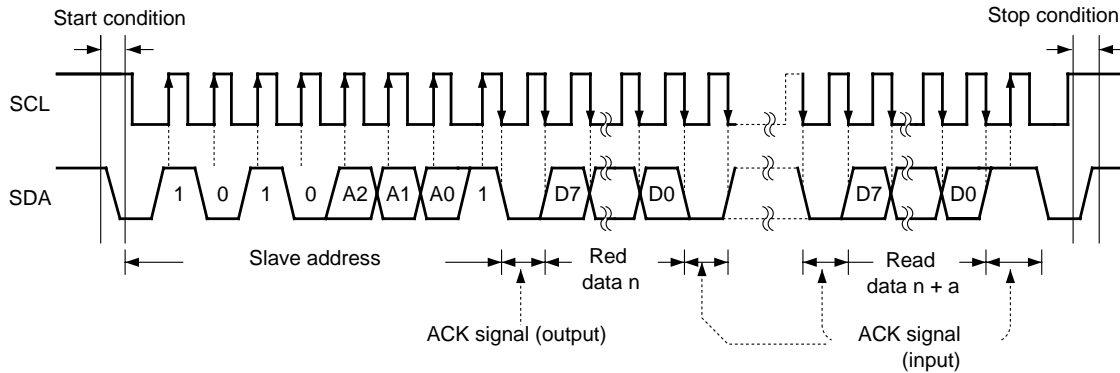

Fig.16 Sequential read cycle (BR24C01A / AF)
- When an ACK signal LOW is detected after D0 and a stop condition is not sent from the master (μ -COM), the next word address data can be read. [All words all read enabled] (See Figures 16 to 18 for the sequential read cycles.)
(See Figures 16 to 18 for the sequential read cycles.)